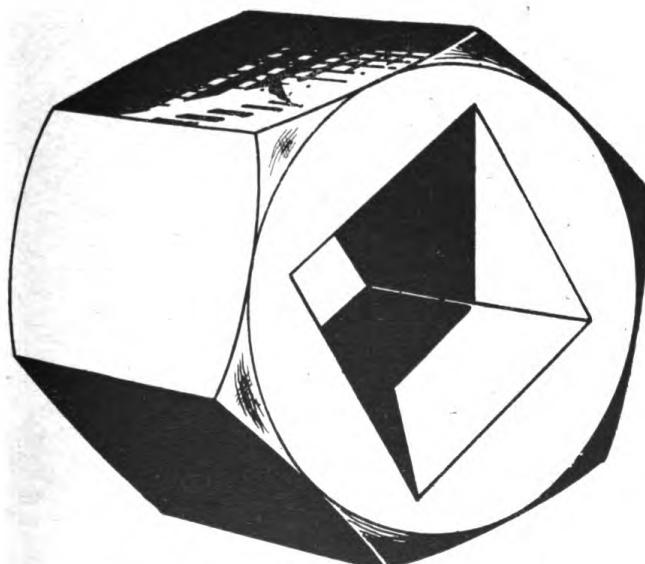

Figure 9. Internal wrenching adapter.
(6) *Internal wrenching adapters* are used for the same purpose as Allen wrenches. One type is shown in figure 9. This type has a $\frac{1}{2}$ -inch